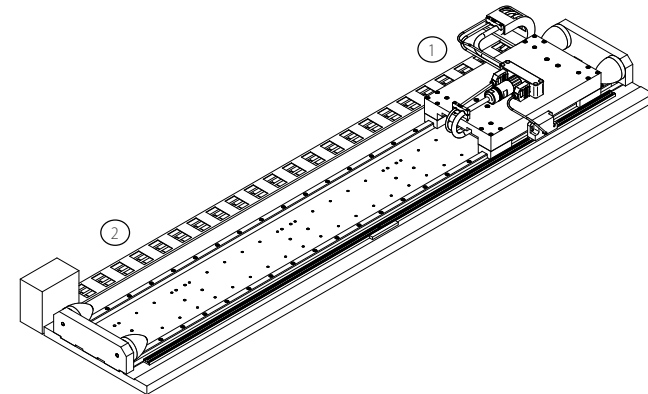

Figure 4.6: Move slide to the end of the stroke.
1. Move the slide to the end of the stroke (1). The first magnet plate will be mounted against the other end of the stroke with the protection plate still on top of the magnet plate (2). Secure the slide against unwanted movements. Make sure the mounting surface is free of dust and small particles. See figure 4.6.